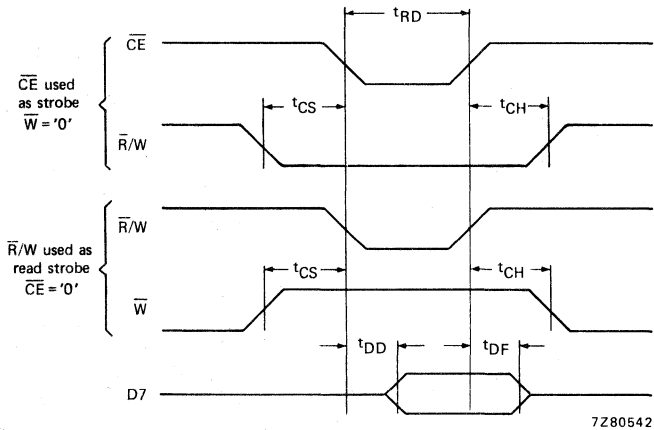

Fig. 6 Read timing.
**TIMING CHARACTERISTICS (note 4) (Figs 6 and 7)**